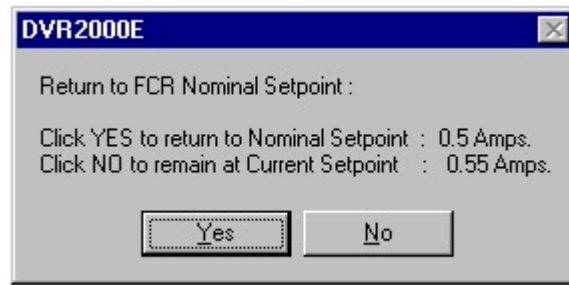

Figure 5-16. Message Box to Return to FCR Nominal Setpoint
**Field Current Step Response - Increment of FCR Setpoint (A).** These two fields indicate the increase that occurs to the FCR setpoint when the corresponding Increment button is clicked. The “% increase” field is used to set and indicate the percentage that the FCR setpoint is increased when the Increment button is clicked. The “FCR Setpoint =” field indicates the value of current that corresponds to the “% increase” field. Any setpoint value within range and higher than setpoint value can also be typed into The “FCR Setpoint =” field which updates the “% increase” field also. The FCR setpoint changes to this value when the adjacent button is clicked. When clicked, the Increment button changes from gray to red to indicate that the FCR setpoint has increased to the value in the “FCR Setpoint =” field.
**Field Current Step Response - Decrement of FCR Setpoint (A).** These two fields indicate the change that will occur to the FCR setpoint when the corresponding Decrement button is clicked. The “% decrease” field is used to set and indicate the percentage that the FCR setpoint is decreased when the decrement button is clicked. The “FCR Setpoint =” indicates the value of current that corresponds to the “% decrease” field. Any setpoint value within range and lower than setpoint value can also be typed into The “FCR Setpoint =” field which updates the “% decrease” field also. The FCR setpoint changes to this value when the adjacent button is clicked. When clicked, the Decrement button changes from gray to red to indicate that the FCR setpoint has decreased to the value in the “FCR Setpoint =” field.
The setpoint value currently set in the unit by any of the above methods is displayed in the current setpoint textbox. To return to the nominal setting the button adjacent to FCR Setpoint (I) (Nominal) should be pressed. If the FCR analysis screen is left without returning to nominal setpoint a message box is shown (Figure 5-16) which allows the user to return to nominal setpoint by pressing YES or remain at the current setpoint by pressing NO.